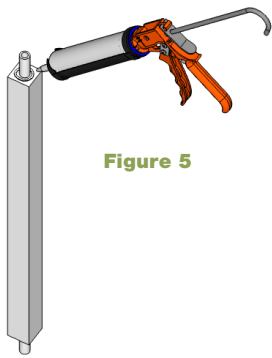
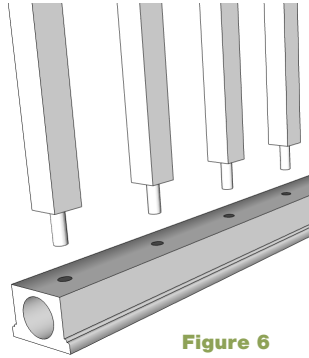

Figure 5
Figure 6
- A. Apply a 1/4" bead of PL Premium adhesive to the bottom of each baluster. See figure 5. Then, Insert the bottom of the baluster rods into the pre-drilled holes on the bottom rail. Repeat for each baluster until complete. See figure 6.